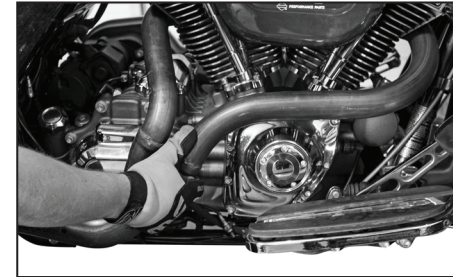

Fig. 2
1. Install the factory mounting flanges and circlips, removed from the factory system, on the new head pipes. (Figure 2)